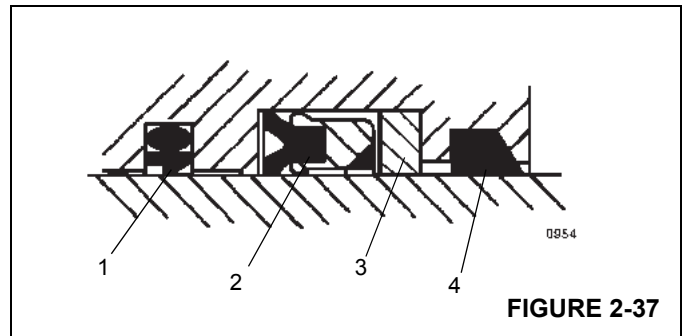

FIGURE 2-37
4. Install the replacement wear rings, buffer seal and deep Z rod seal in the inside of the head. Make sure the buffer seal's step is closer to the deep Z rod seal Figure 2-37. Make sure the deep Z rod seal's rim groove is closer to the buffer seal.